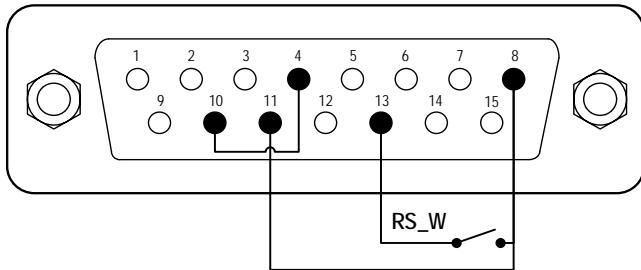
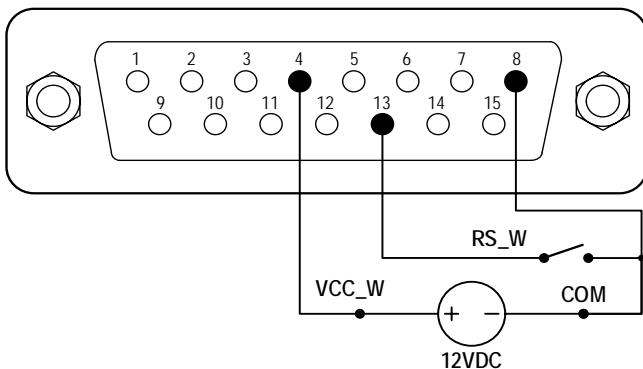

Figure 19. Footswitch with internal 12V Power Source
Figure 20. Footswitch with External 12V Power Source
- Switch the power off. Wire the DB15 connector as shown in Figure 19 or Figure 20, and connect it to the DB15 port on the rear of the pump.